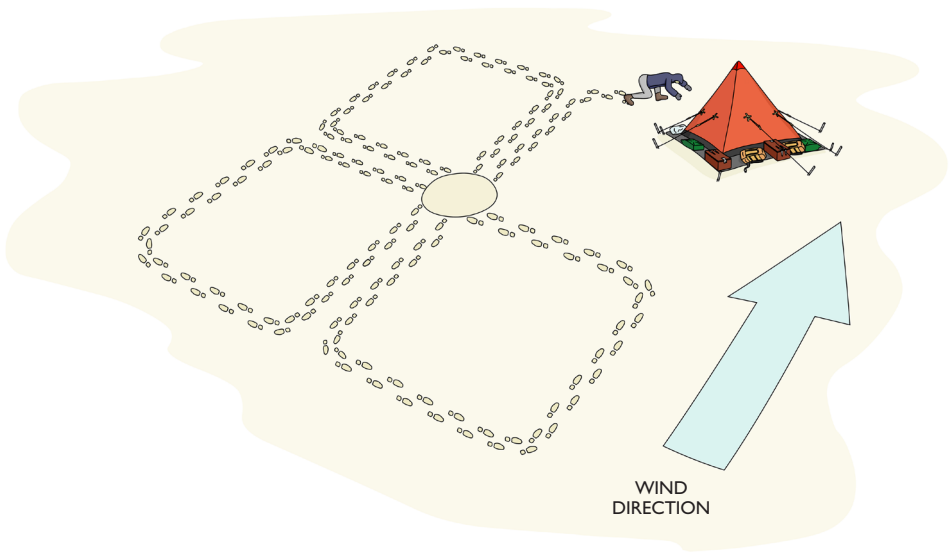

Figure 7 – Square box search
- Try a search pattern. This could be a square search or a spiral search (see Figures 7 and 8)